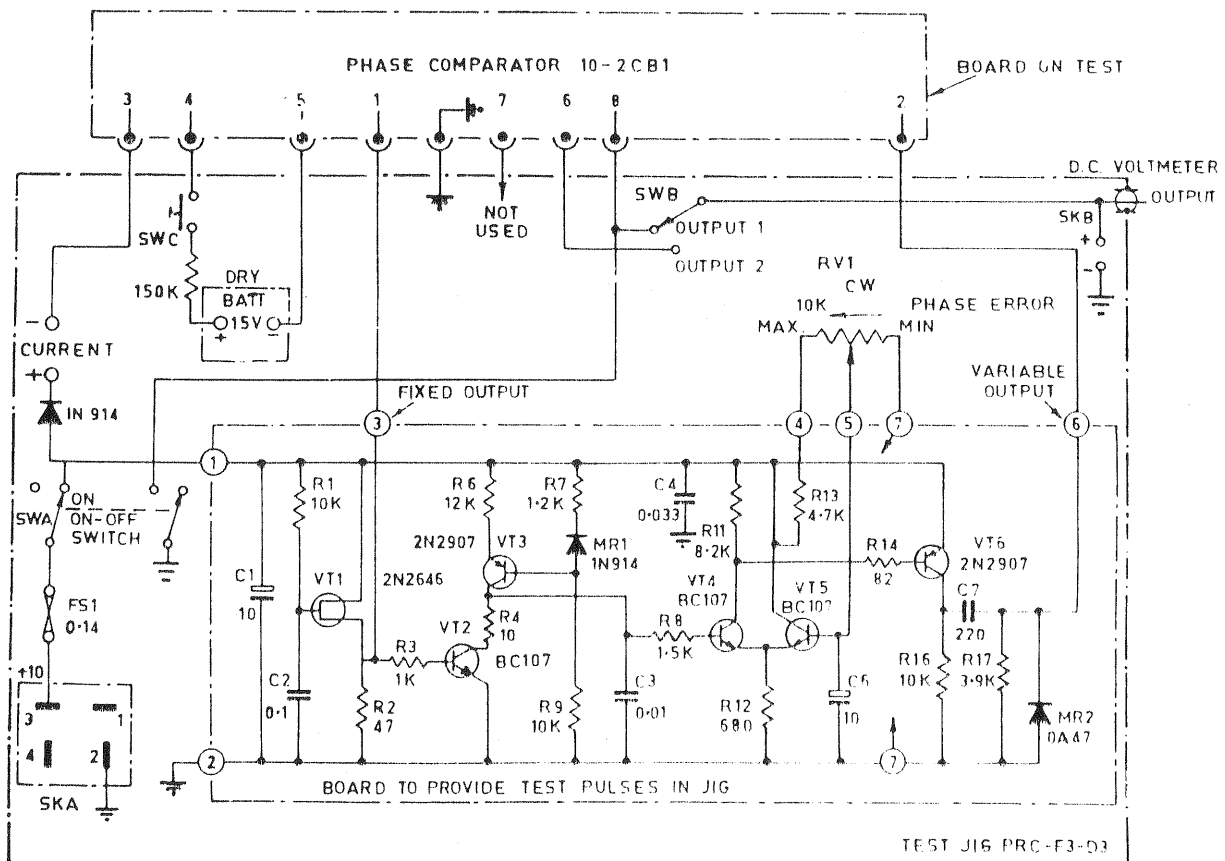

FIG 6 - TEST JIG PRC-F3-D3 (Phase Comparator Board)
- b. Test Jig PRC-F3-D3 (See Fig 6).